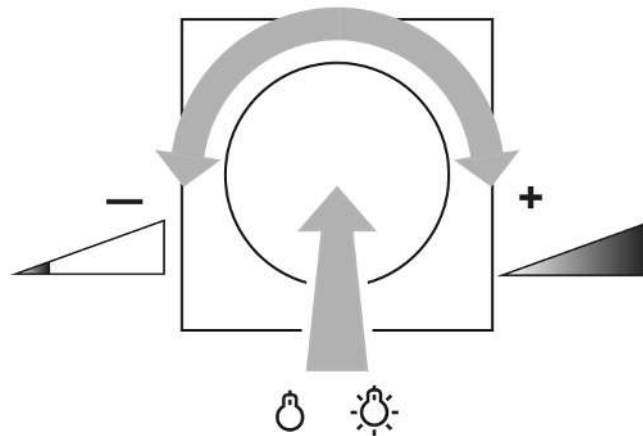

Figure 1: Switching light or adjusting brightness
- Press the setting knob briefly: Light switches on or off (see figure 1).
- Turn the setting knob quickly: Brightness is changed quickly (see figure 1).
- Turn the setting knob slowly: Brightness is changed slowly (see figure 1).